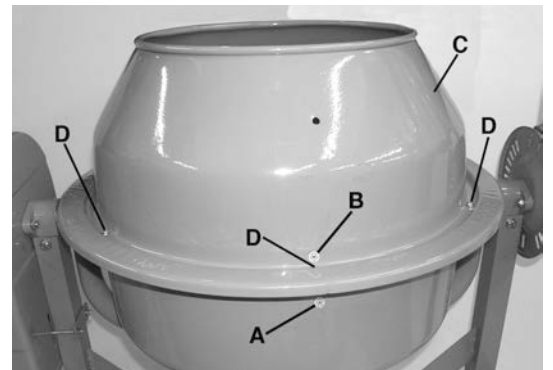

FIGURE 16
2. Turn the lower drum so the small A label (A) Fig.16 is facing you. Then position and align the small A label (B) of the upper drum (C) with the small A label on the lower drum, lower upper drum onto lower drum making sure the mounting holes align in both.
3. Insert six hex. bolts (D) into each mounting hole. Fasten drums together using washers and flange hex. nuts.